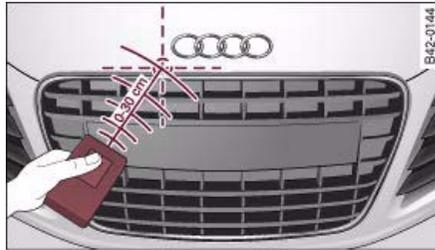

Fig. 81 Front bumper
5. Now step in front of your vehicle with the **original hand-held transmitter** for the garage opener or any other device you wish to assign to the HomeLink control button ⇒ fig. 81.
6. Hold the **original hand-held transmitter for the device you wish to program** close to the front bumper, directly above the radiator grille ⇒ fig. 81.
- Hold the **original hand-held transmitter** for the garage door opener or other device close to the front bumper directly below the right headlight ⇒ *page 96*, fig. 81. The exact distance depends on the system that you want to program.